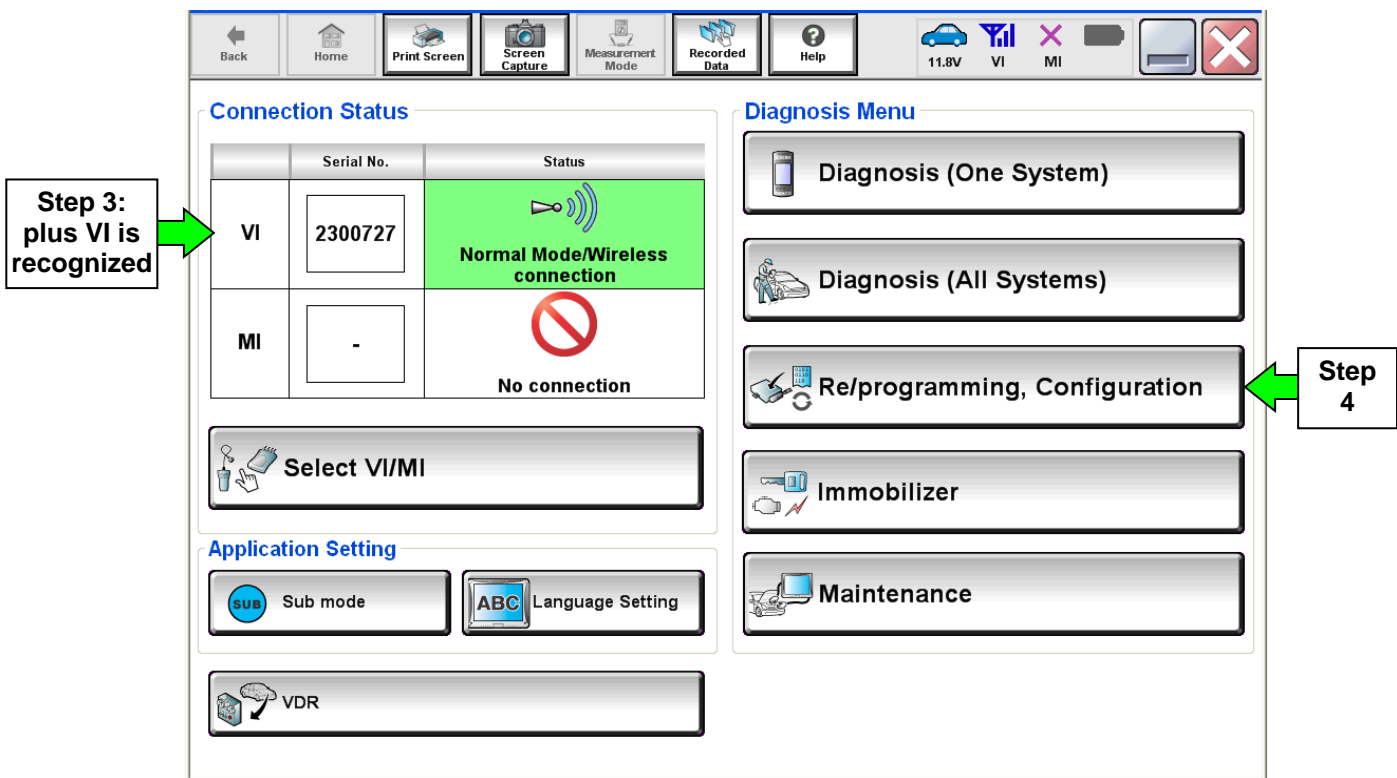

Figure 1
1. Return to the C-III plus Home screen (see Figure 1).